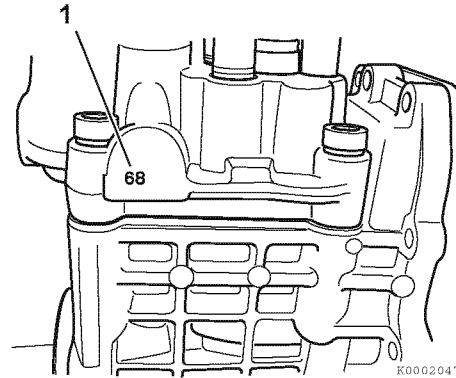

Figure 7-22
- Calculate the difference between the timing index numbers (1, **Figure 7-22**) of the fuel injection pump that you removed and the replacement fuel injection pump. See *Calculation example* below.